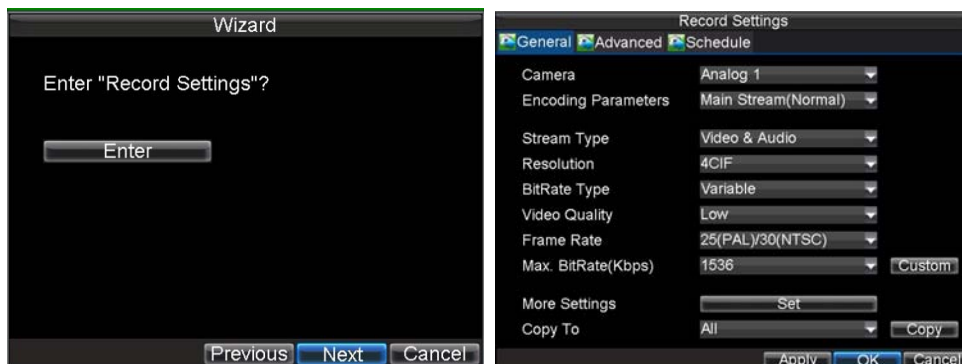

Figure7. Record Settings
15. Click *Next* button to enter the **Record Settings** dialogue box, as shown in Figure 7.